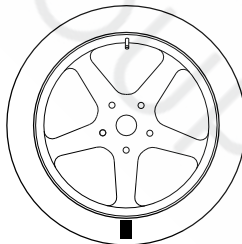

Fig. F5.6 - Marking the tyre at 180° respect to the valve
- Remove the wheel from the shaft, remove the tire bead, rotate it so that the mark is at 180° respect to the valve (see figure F5.6);